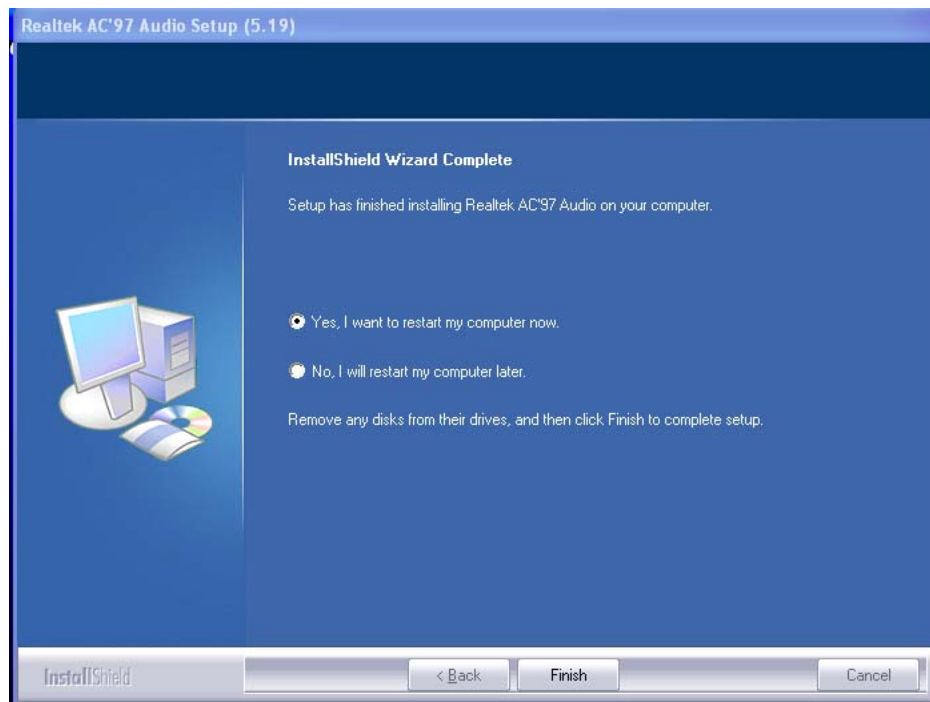

Figure 6-29: AC'97 Driver Installation Complete
Step 8: When the driver is installed, the driver installation finish screen in Figure 6-29 appears.